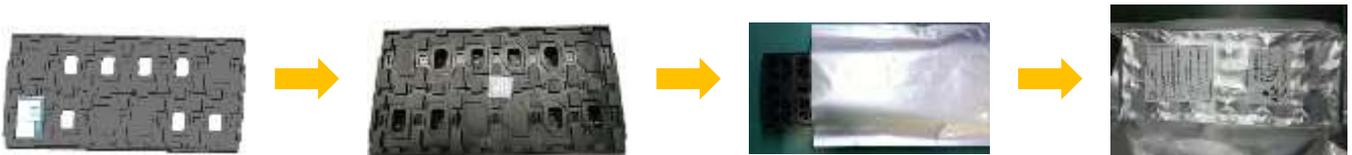

Figure 4-2. Stacking of Trays
Refer to Figure 4-2 for stacking of trays. Plastic trays (③) are stacked into 11 layers. Put Activated Clay (⑤) at the top and bottom of tray (1 pcs for each), and then put 8 trays into one Foil bag (④). Put the Wet sensitive identification card (⑦) into the Foil bag (④). The packaging capacity of Foil bag (④) is:  $12 * 7 = 84$  sets of SOM.